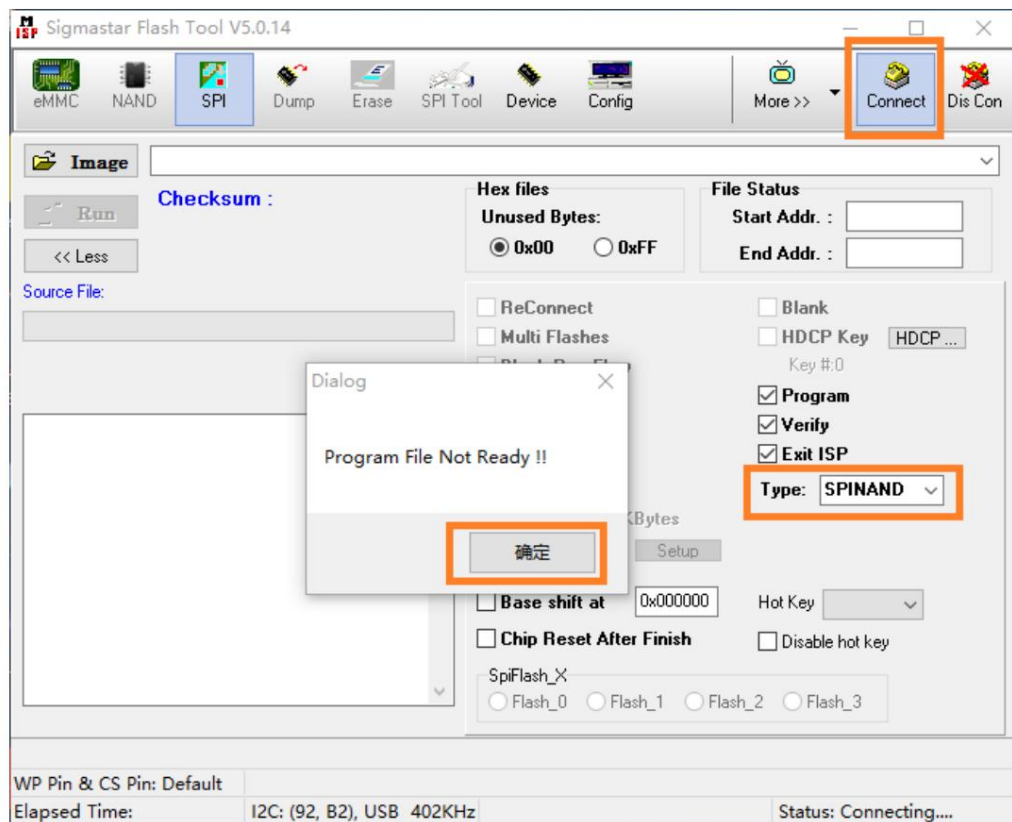

Figure 15
Step 4: On the Type button, select SPINAND, connect the Connect button, the interface shown in Figure 15 will appear, and click OK.